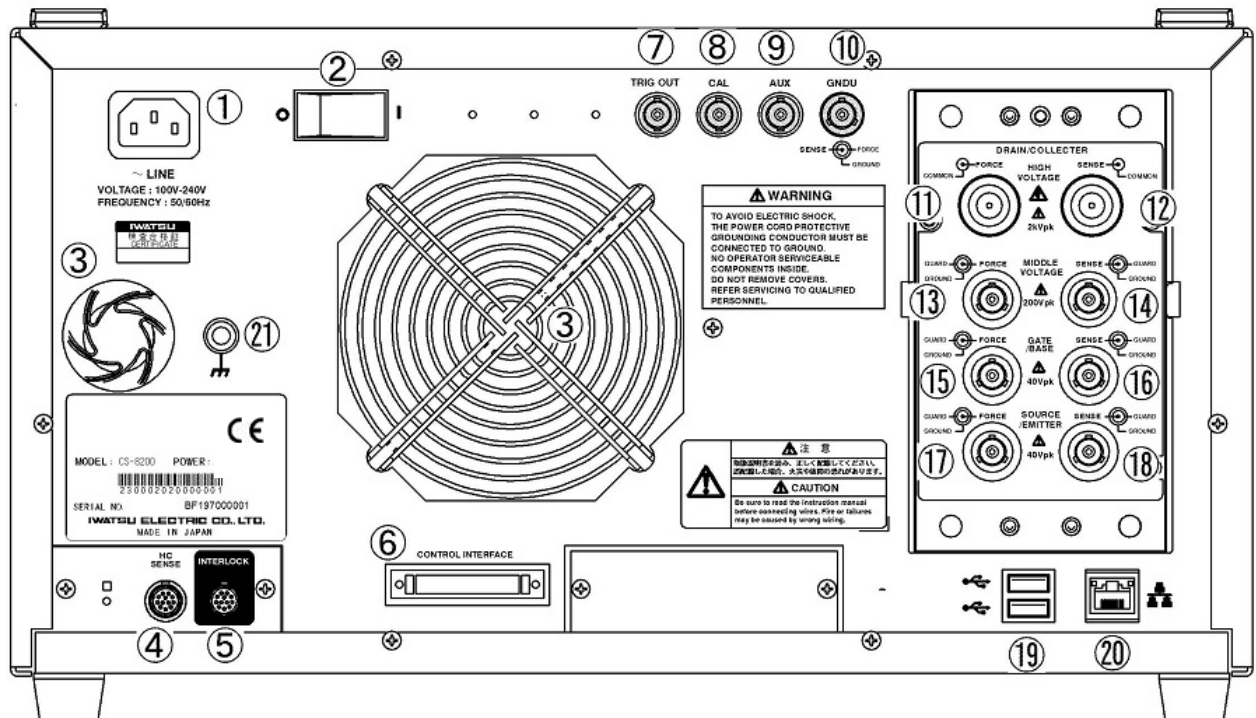

Figure 2.6: Rear panel of CS-8200
Figure 2.6 shows the rear panel view of the CS-8200 and describes the names and functions of each part of the CS-8000 Series.
The connectors ⑪ and ⑫ in the rear panel of CS-8200 shown in Fig. 2.6 have a high-voltage coaxial structure.